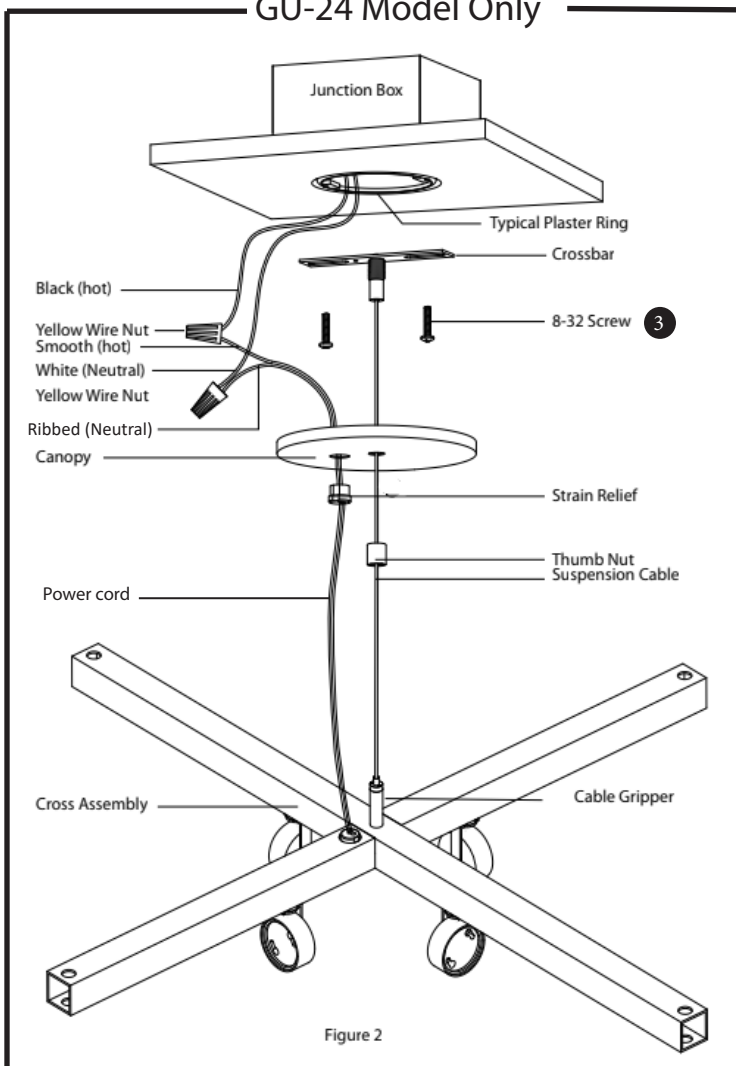

Figure 2
- 5 Make electrical connections as shown in figure 2 using the supplied wire nuts. One power lead should be smooth and the other should be ribbed. Connect the smooth conductor to the hot line and the ribbed conductor to the neutral line.